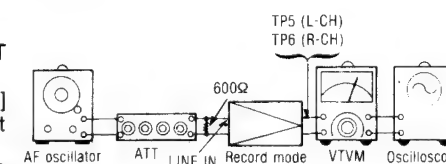

Fig. 18
1. Test equipment connection is shown in fig. 18.